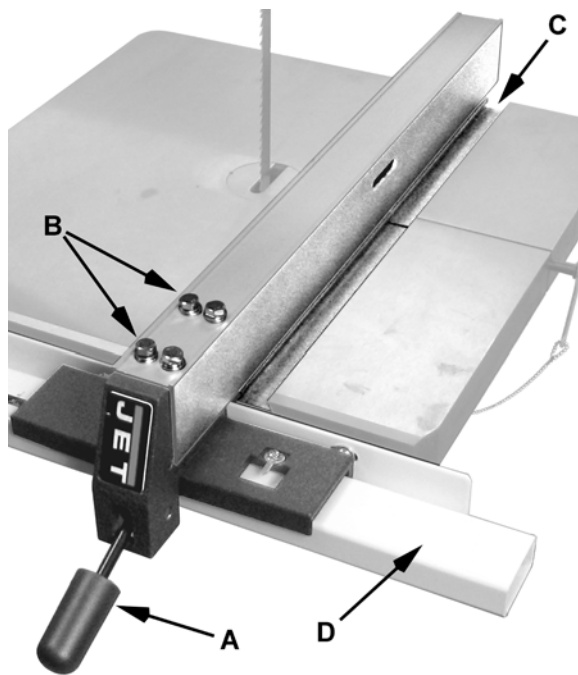
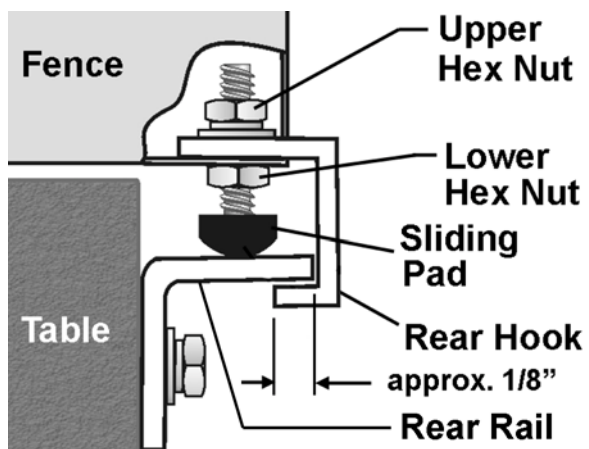

Figure 9
Figure 12
5. Place the fence assembly onto the *guide rail* (D, Fig. 9) and against the edge of the *miter slot* (C, Fig. 9). The hook at the rear of the fence should fit under the rear rail (see Figure 12).
6. Lock the fence by pushing down the *lock handle* (A, Fig. 9). Because the screws are only hand-tight, you can shift the fence slightly as needed until the fence is parallel the miter slot.
7. When the fence has been properly aligned to the miter slot, tighten the four *hex cap screws* (B, Fig. 9) with a 12mm wrench. Make sure the fence remains parallel to the miter slot as you tighten the screws.
If the gap between fence and table is not consistent, loosen either of the *hex nuts* on the *hook* (Figure 12) and rotate the *sliding pad* until the fence/table gap is consistent across the full length of the table. When this is achieved, tighten both hex nuts.
Check the adjustment of the *hook* at the rear of the fence. The hook should be positioned so that it overlaps the rear rail by approximately 1/8" (Fig. 12). To adjust the hook, loosen the *upper hex nut* and slide the hook in or out as needed. Re-tighten upper hex nut.